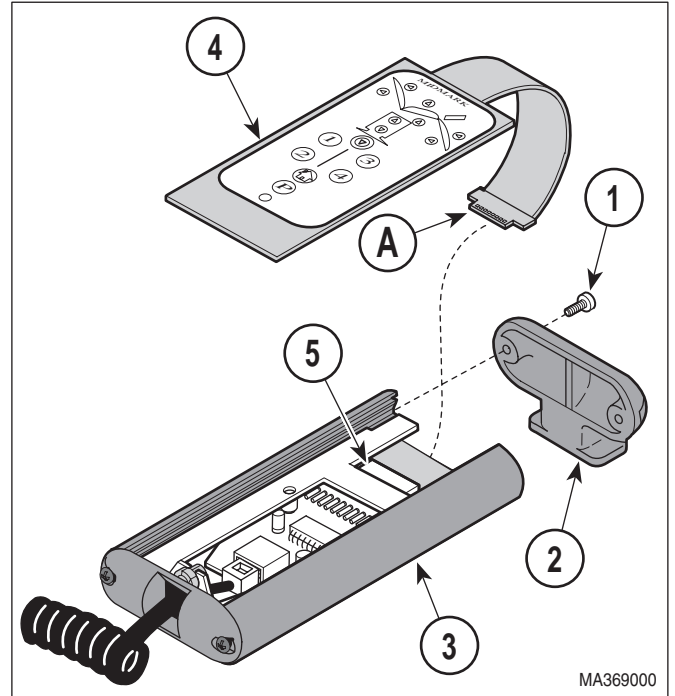

Figure 4-33. Hand Control Switch Panel Removal / Installation
- (1) Disconnect coil cord from table.
- (2) Remove two screws (1, Figure 4-33) and top end cap (2) from hand control tube (3).
- (3) Pull hand control switch panel (4) from hand control tube (3).
- (4) Disconnect ribbon connector (A) of hand control switch panel (4) from hand control PC board assembly (5).